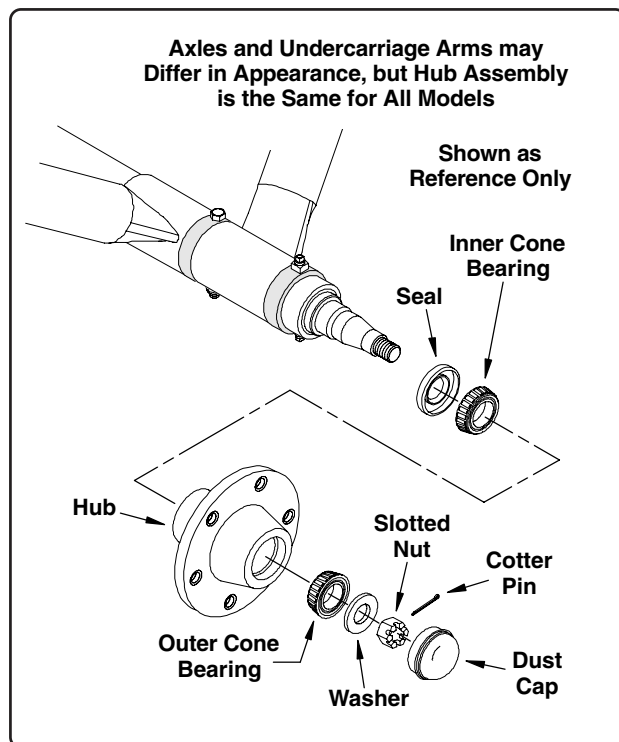

Fig. 11
2. Remove the dust cover by prying around the edges, (See Fig. 11) then remove the cotter pin, slotted nut and flat washer from the end of the axle shaft.